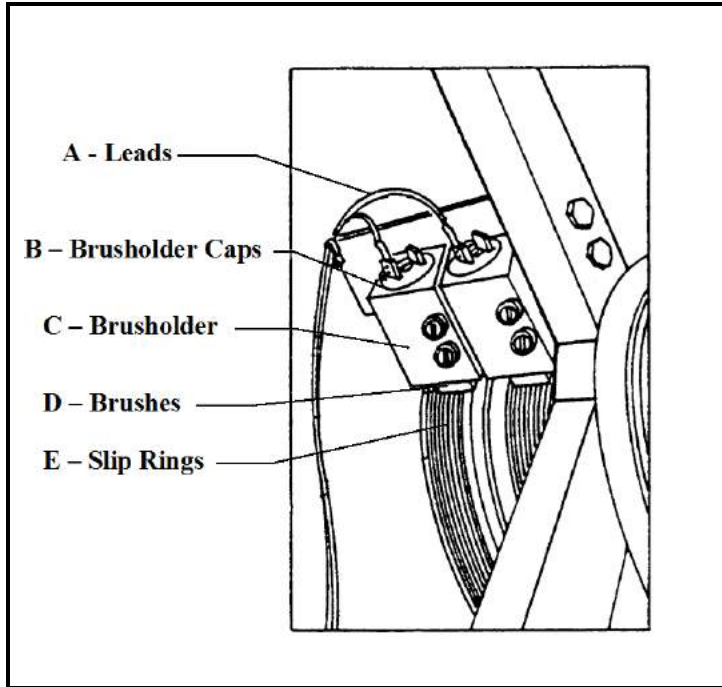

Figure 5 Generator Revolving Field Brushes
b) Generator Revolving Field Brush Replacement (See Figure 5)
1. Disconnect leads (A) from connectors on brush holder caps (B).
2. Remove brush holder caps (B) from brush holder.